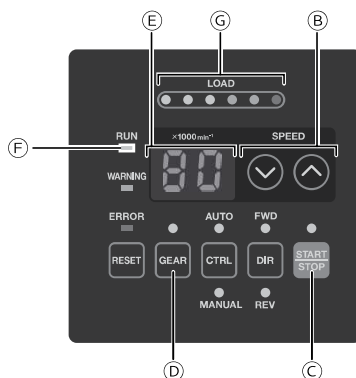

Fig. 23 CONTROLLER Control Panel
- (4) Setting Gear Ratio (Set the Gear Mode Select Button (GEAR) ㉓ of the Fig. 23 CONTROLLER Control Panel.)
(6) Motor Start / Stop (Motor Start / Stop by pushing the START / STOP Button (START / STOP) © of the Fig. 23 CONTROLLER Control Panel)
(4) Setting Gear Ratio (Set the Gear Mode Select Button (GEAR) © of the Fig. 23 CONTROLLER Control Panel)